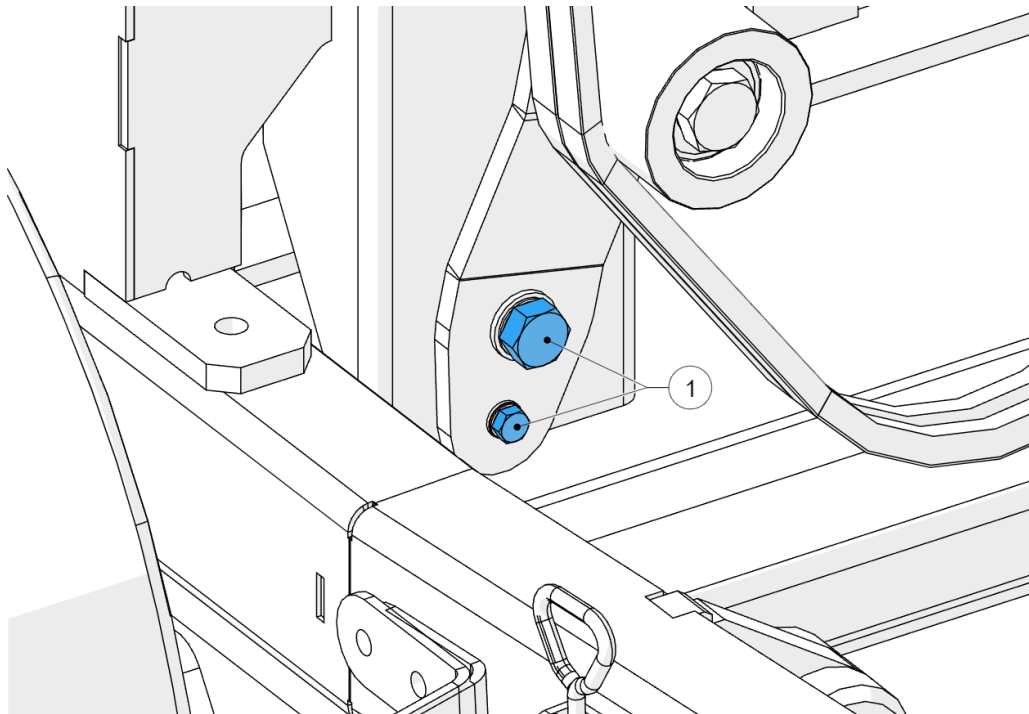

Figure 64 - Main belt tensioner
4. Locate the main belt tensioner (1, Figure 64).